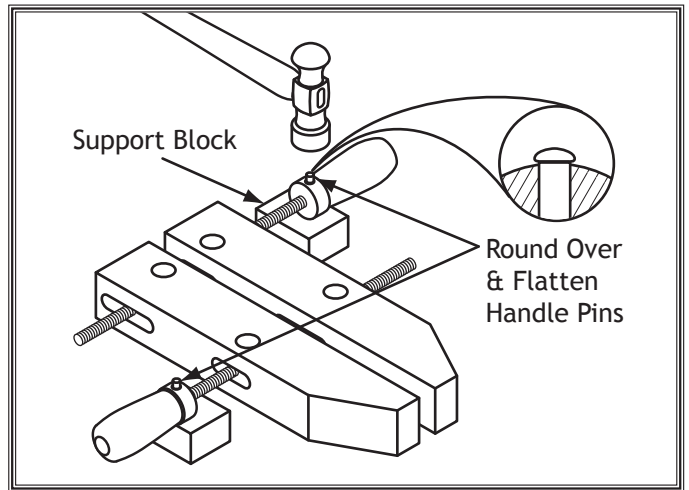

Figure 9. Inserting handle pins.
8. Insert a handle pin through each handle and threaded rod, support the head of the pin from beneath, then use a small hammer to mushroom the exposed end of the handle pin, as shown in **Figure 9**, to prevent it from falling out.